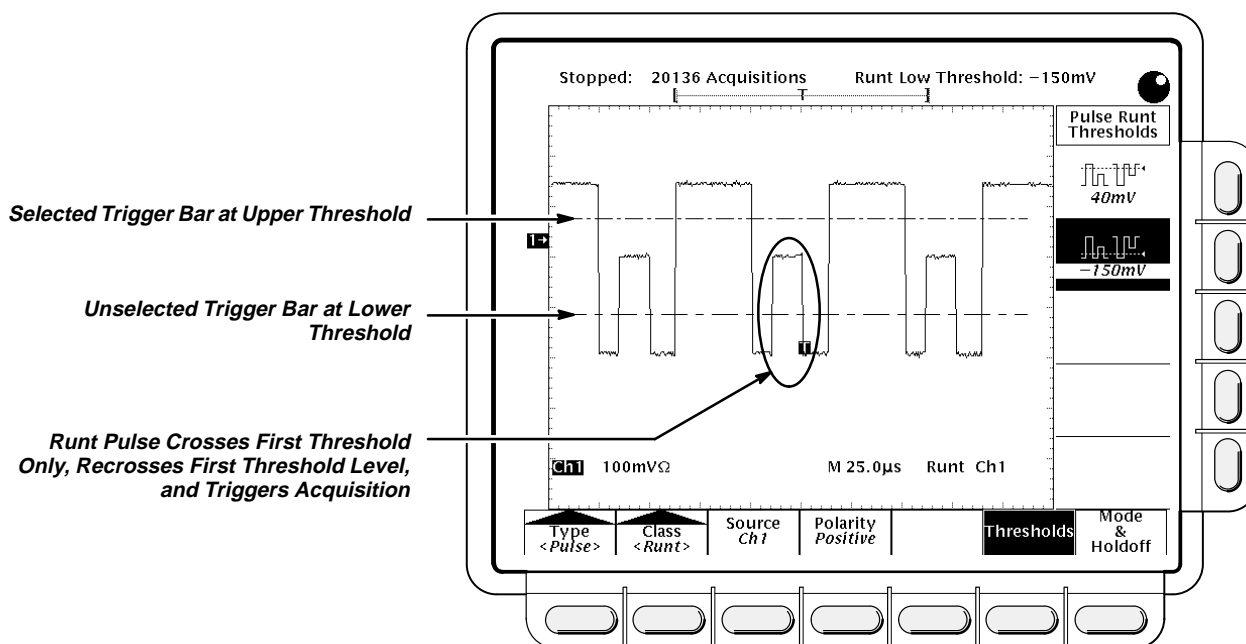

Figure 3-43: Main Trigger Menu—Runt Class
1. Press **TRIGGER MENU** → **Type** (main) → **Pulse** (pop-up) → **Class** (main) → **Runt** (pop-up) → **Source** (main) → **Ch1, Ch2, Ch3** (**Aux1** on the TDS 620), or **Ch4 (Aux2)** on the TDS 620) (side). (See Figure 3-43.)
Note the position of the trigger indicator in Figure 3-43. Triggering occurs at the point the pulse returns over the first (lower) threshold going negative without crossing the second threshold level (upper). Be aware of the following considerations when using Runt triggering: